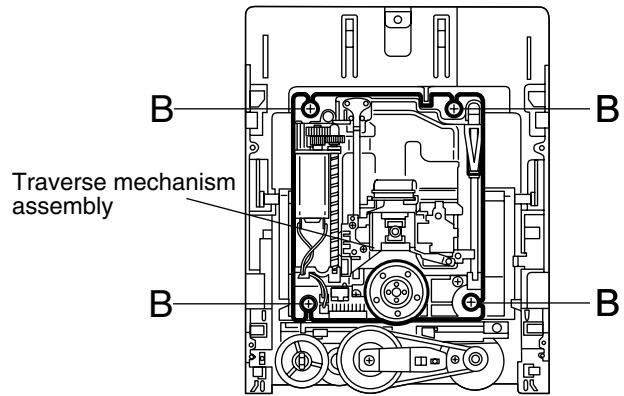

Fig.4
■ Removing the traverse mechanism assembly (See Fig.4 and 5)